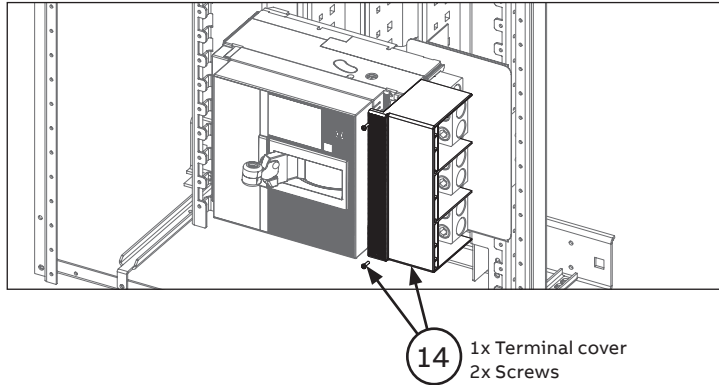

Figure 9. Install terminal cover
Install terminal cover (14) in the load side and secure with 2x supplied screws as shown in figure 9.